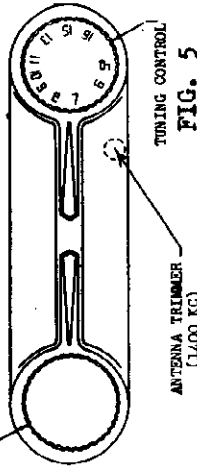

FIG. 5
5. Adjust the antenna trimmer C-20 (See Fig. 5) for maximum response.